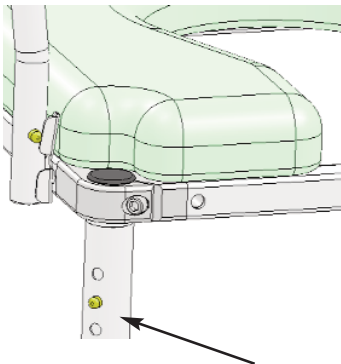

Figure 10
**A Leg Height Adjustment:** When making height adjustments to any of the legs, make sure that the brass buttons are fully engaged into the outer legs. If pushed too hard the button could become stuck inside the inner leg (Contact NuprodX, Inc. if this occurs). Leg height adjustment should only be made before transferring the user into the chair (Refer to Figure 10).